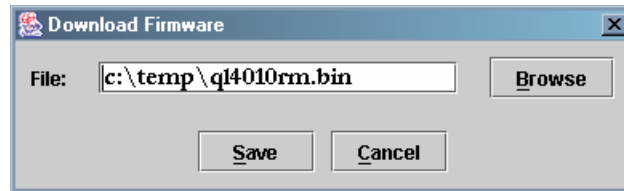

Figure 57 Download Firmware dialog box
3. In the dialog that appears, as shown in Figure 57, type in the path to the firmware file that you want to load to the HBA, and click **Save**.